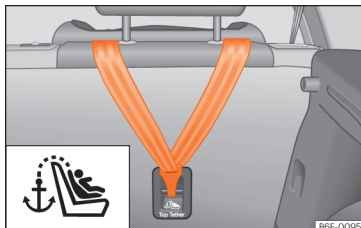

Fig. 27 Back of the rear seats: Top Tether securing rings.
- Slide the strap and secure it properly with the anchorage of the backrest »» Fig. 27.